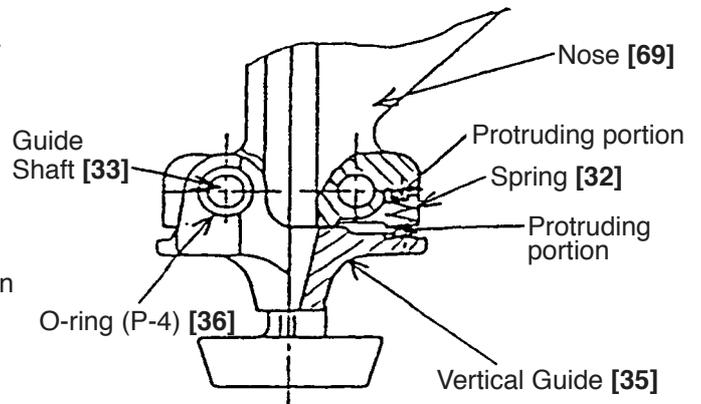

Fig. 22
- After reassembly, confirm that the pushing lever components and Adjuster (B) [39] operate smoothly.
(2) Disassembly and reassembly of the Vertical Guide [35] and related parts (See Fig. 22.)
- Ensure that the Guide Shaft [33] is assembled so that the O-ring (P-4) [36] is on the side toward you (the nail guide side), as illustrated in Fig. 22.